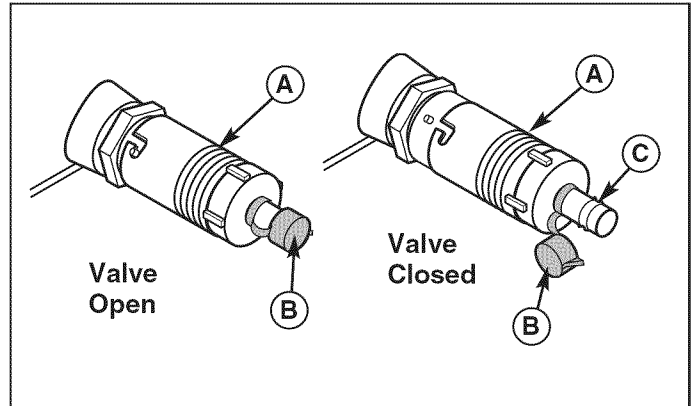

Figure 17. Oil Drain Valve
2. Loosen or remove the dip stick (A).
3. Wipe oil drain valve (A, Figure 17) and cover (B) with paper towel or rag.